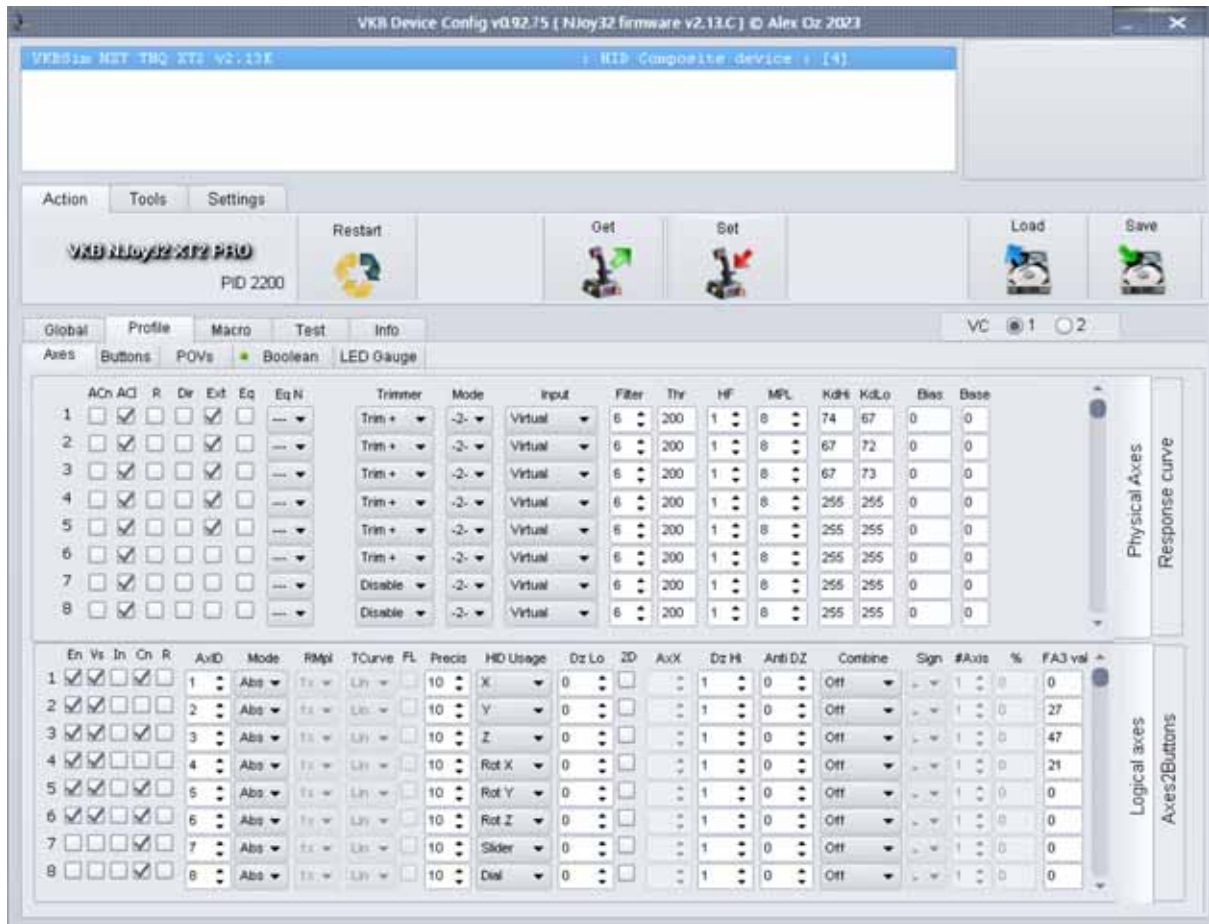

Fig. 2.1.
After you launch *VKBDDevCfg-C.exe* the main **VKBDeviceConfig** window will appear. The title bar contains configurator version (Fig. 2.1).
2. Run *VKBDevCfg-C.exe*, select joystick name in the list (fig. 2.1 on p. 19).